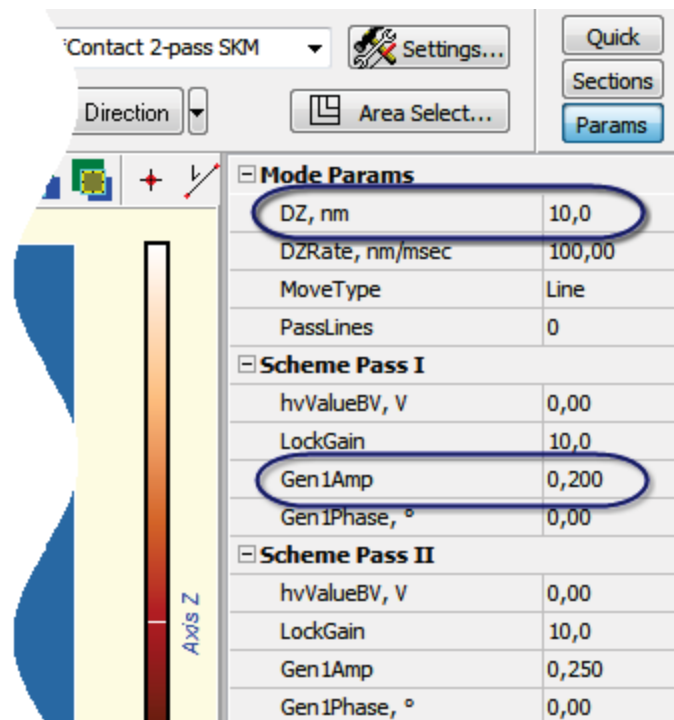

Fig. 9-14. Additional Parameters panel
2. Observe quality of the acquired image and vary the sample-probe distance. This needs modification of the **DZ** parameter in the **Mode Params** group (Fig. 9-14).
3. Observe quality of the acquired image and vary the generator output amplitude. This needs modification of the **Gen1Amp** parameter in the **Pass II** group (Fig. 9-14).